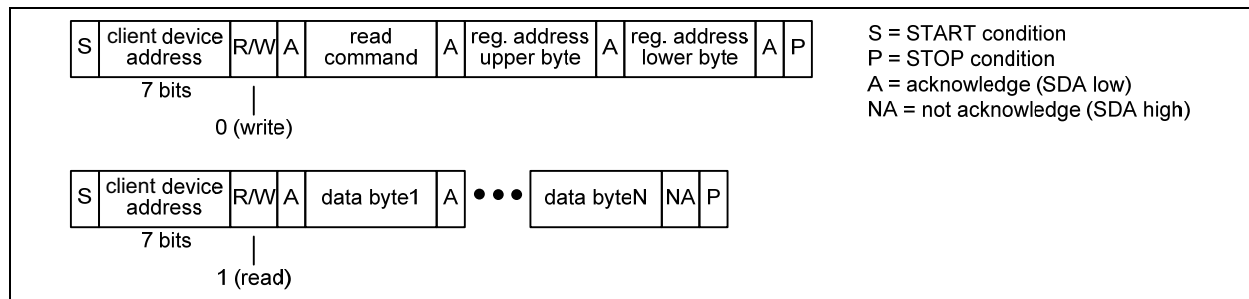
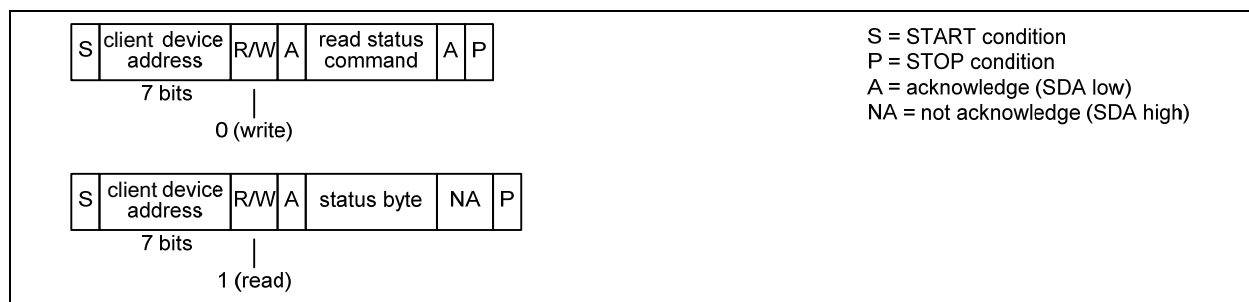

FIGURE 5-6: I²C Read Transaction Functional Timing.
FIGURE 5-9: I²C EEPROM Read Status Transaction Functional Timing (ZL30251 Only).
Read Transactions. The device registers are accessible when **EESEL=0**. On a ZL30251 the internal EEPROM memory is accessible when **EESEL=1**. On ZL30250 **EESEL** must be set to 0. The bus server first does an I²C write to the device. In this transaction, three bytes are written: the SPI Read command (see Table 5-6), the upper byte of the register address, and the lower byte of the register address. The bus server then does an I²C read. During each acknowledge (A) bit the device fetches data from the read address and then increments the read address. The device then transmits the data to the bus server during the next 8 SCL cycles. The bus server terminates the read with a not-acknowledge (NA) followed by a STOP condition (P). See Figure 5-6. Note: If the I²C write is separated in time from the I²C read by other I²C transactions then the device only outputs the data value from the first address and repeats that same data value after each acknowledge (A) generated by the bus server.
EEPROM Read Status (ZL30251 Only). The bus server first does an I²C write to transmit the SPI Read Status command (see Table 5-6) to the device. The bus server then does an I²C read to get the status byte. In this byte, the least significant bit is set to 1 if the transfer is still in progress and 0 if the transfer has completed. See Figure 5-9.
Note: In Figure 5-6 through Figure 5-9, a STOP condition (P) immediately followed by a START condition (S) can be replaced by a repeated START condition (Sr) as described in the I²C specification.